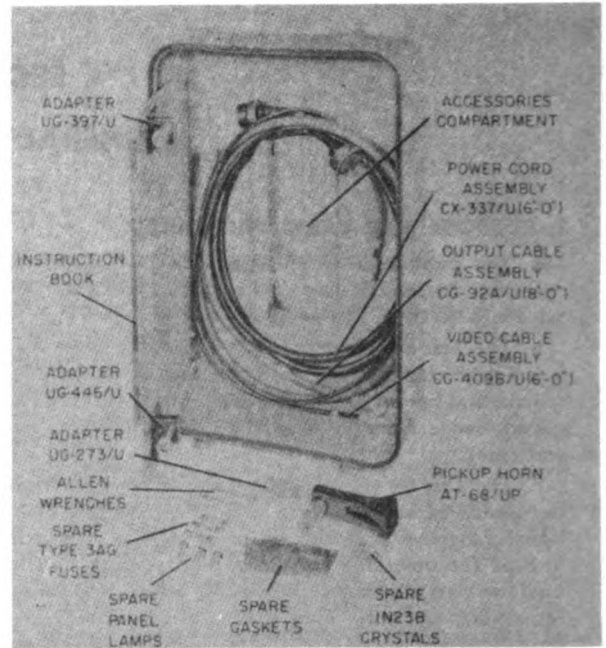

Figure 1-3. Test Set Accessories and Operating Spares
b. **PICKUP HORN AT-68/UP** (See figure 1-3).—The pickup horn is a small, directive-antenna assembly which can be used both for receiving external r-f energy to be measured by the Test Set and for transmitting the r-f test signal generated in the Test Set. The horn consists of a tapered section of waveguide which is termi-
c. **OUTPUT CABLE ASSEMBLY CG-92A/U (8'-0")** (See figure 1-3).—This cable is used for making the r-f connection to the radar system under test. Either a directional coupler or a pickup horn is used to complete the r-f connection. The cable assembly consists of eight feet of RG-9/U cable fitted with two UG-21B/U connectors. Connection is made to the UG-23B/U receptacle marked RF on the control panel. The value for the r-f attenuation of the cable, accurate to ± 0.3 db at 8500, 9080 and 9600 mc, is stamped on a metal tag which is attached to each unit. The attenuation of the cable may change with time.
d. **VIDEO CABLE ASSEMBLY CG-409B/U (6'-0")** (See figure 1-3).—This cable is used for connecting a trigger voltage to the Test Set when it is not possible to trigger the set by means of r-f pulses. The cable assembly consists of six feet of RG-58/U cable fitted with two UG-88/U connectors. An accessory right-angle video connector, UG-306/U, is coupled to one of the cable fittings. The video cable connects to the receptacle marked EXT MOD-TRIGGER IN on the control panel.
e. **POWER CORD ASSEMBLY CX-337/U (6'-0")** (See figure 1-3).—Connection of the Test Set to a 115-volt, a-c power source is made by this cord. The assembly consists of six feet of rubber covered two-conductor cord provided with a female and a male
f. ADAPTER UG-273/U (See figure 1-3). — This BNC-to-UHF adapter is used to connect video cable CG-409B/U (6'-0") to female UHF fittings.
g. ADAPTER UG-397/U (See figures 1-3).—The UG-397/U adapter is used to connect the type -N fitting on the output cable to 1¹/₄ in. x 5⁸/₁₆ in. waveguide.
b. ADAPTER UG-446/U (See figure 1-3).—This adapter serves to connect the type-N fitting on the output cable to 1 in. x 1¹/₂ in. waveguide.
i. OPERATING SPARES (See figures 1-3 and 4-5). —The following operating spares are supplied to replace corresponding parts in the Test Set: